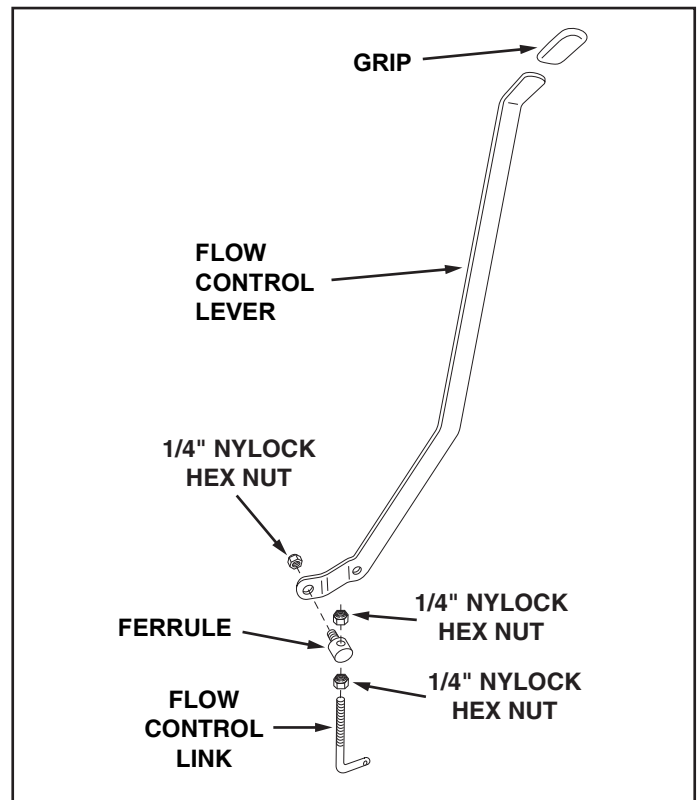

FIGURE 7
- Screw a 1/4" nylock hex nut all the way onto the flow control link. Assemble the ferrule onto the link and then start a 1/4" nylock hex nut one or two turns onto the link. See figure 7.
- Assemble the ferrule into the hole at the end of the flow control lever using a 1/4" nylock hex nut. **Tighten** the nut, leaving it loose enough that the ferrule can pivot freely. See figure 7.
- Assemble the grip onto the end of the flow control lever. See figure 7.